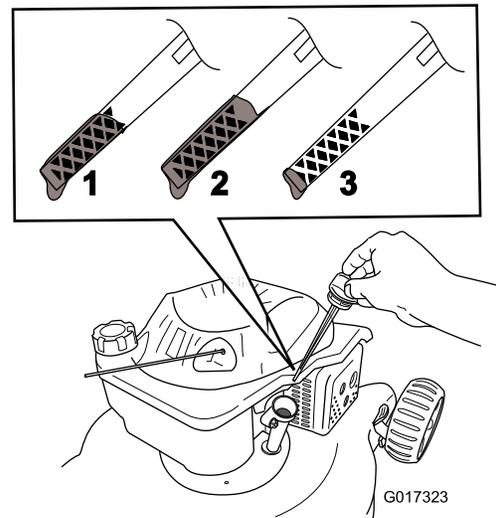

Figure 28
4. Remove the dipstick (Figure 28).
11. Read the oil level on the dipstick (Figure 28).